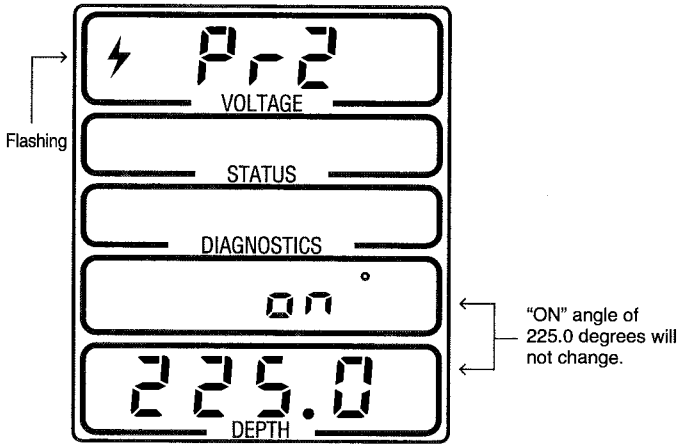

Figure 2.82
2. Press the SELECT button several times to advance to the "Pr2" screen as illustrated in figure 2.82.